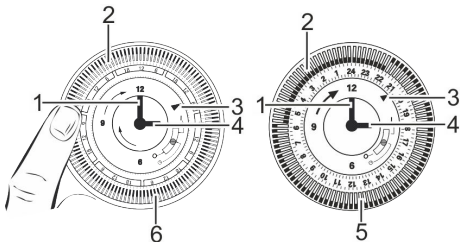

Fig. 7: Setting the day of the week and the time
With the “BG7S” timer (Fig. 7/6) the day of the week (Monday – Sunday) and the current time have to be set. With the “BG1S” and “eco BG1Q” (Fig. 7/5) timers only the current time has to be set.
“BG7S” only: To set the current day of the week, rotate the dial (Fig. 7/2) clockwise until the indicator marker (Fig. 7/3) points to the current day of the week.
2. To roughly set the time, turn the dial (Fig. 7/2) clockwise until the indicator marker points to the current time.
3. To finely adjust the time, turn the minute hand (Fig. 7/1) clockwise until the time indicated by the indicator marker (Fig. 7/3) matches the current time.